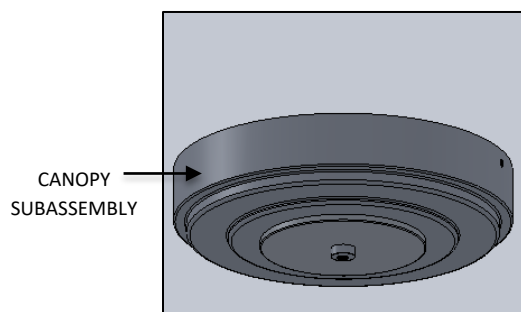

FIG. 4 - CANOPY SUBASSEMBLY
- a. CANOPY SUBASSEMBLY (as shown in FIG. 4)